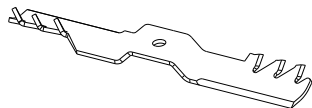

FIG 3
- Mulching Blade and Grass Board: see FIG 3